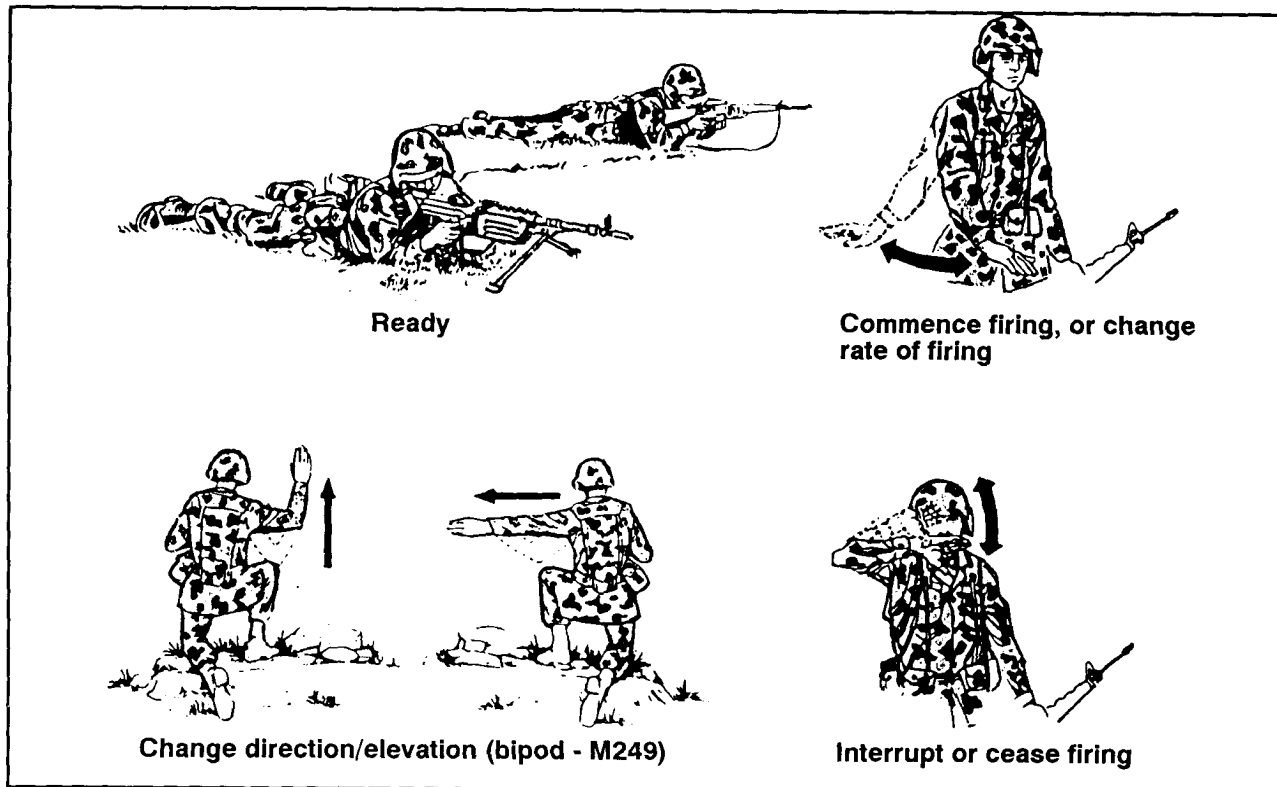

Figure 6-22. Arm-and-hand signals.
(2) *Arm-and-hand signals*. Battlefield noise and the distance between the automatic rifleman and the leader often make it necessary to use arm-and-hand signals to control fire (Figure 6-22, page 6-30). When an action or movement is to be executed by only one of the automatic riflemen, a preliminary signal is given to that automatic rifleman only. The following are commonly used signals for fire control.